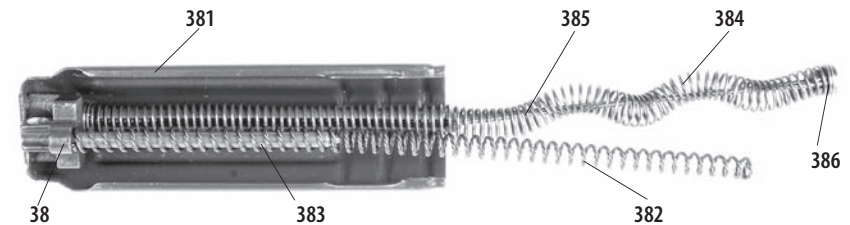

**Fig. 14 Bolt /disassembled/**
**Bolt 3** (Fig. 14) is provided in its front wall with a bed with a centric opening for the cartridge base. Moving free in this opening is firing pin 31 (Fig. 14). Extractor 32 with its claw reaches the edge of the cartridge case bed. The bottom edge of the cartridge base bed is bound by ramming lugs **i** (Fig. 13) which push the cartridges out from the magazine into the cartridge chamber. The ejector passes through the groove between these ramming lugs when the bolt is moving backwards. The recess on the right-hand face wall forms a stop for the bolt catch. The bolt is guided in the carrier by grooves **j** which are interrupted on both sides of the bolt by the recess intended for the locking piece (Fig. 13). The bolt is provided with an opening for the striker at the back.
**Firing pin 31** (Fig. 14) ignites the cartridge primer. It is mounted in the body of the bolt. The firing pin is prevented from falling out by the extractor bottom part which reaches the groove in the firing pin and thus also limits the return motion of the firing pin. The firing pin forward motion is limited by the conical surface of the firing pin which bears against the corresponding surface in the bolt body. The thickened rear end of the firing pin projects into the cavity designed for the striker and is relieved by three external longitudinal grooves.
**Extractor 32** (Fig. 14) extracts the fired cartridge case from the cartridge chamber by means of a claw which, pressed by extractor spring 33, snaps into the groove of the base of the cartridge case. The extractor spring is seated in the cavity of the bolt and presses against stay 34 which in turn actuates the extractor.